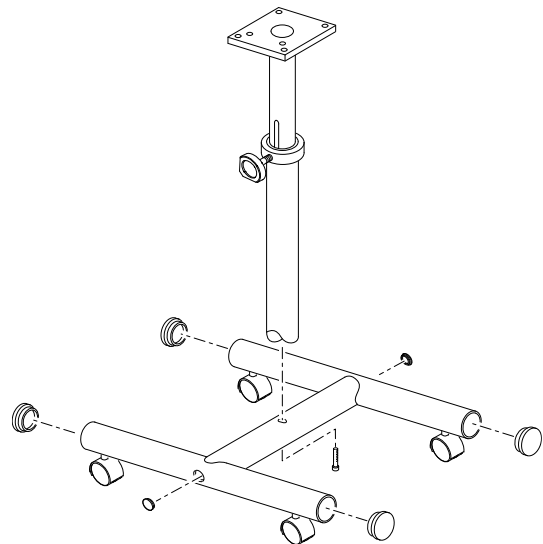

Figure 1
2. Hold the H-frame upright on the table and thread the post mounting bolt through the hole in the cross-piece. Thread the mounting bolt into the threaded hole in the bottom of the telescoping post assembly. Tighten the bolt snugly (40-50 ft-lbs) with a 3/4" box-end wrench. (*Figure 1*)
4. Press the four 1.75" diameter plugs into the ends of the H-frame tubes. Press the .75" diameter plugs into the holes in the cross-piece (*Figure 1*). Set the cart frame on the floor.
5. Thread the height adjust knob into the height adjust collar. Slide this assembly over the telescoping post assembly, and position it so that the end of the knob is over the hole in the outer post. Thread the knob into the hole, just far enough to allow the collar to stay in place. (*Figure 1*)
6. Lift the inner post about four inches and rotate it. You will see a 3/8" slot in the post. Rotate the inner post until the slot is aligned with the height adjustment knob. Thread the knob through the slot to the opposite wall of the inner post (*Figure 1*).